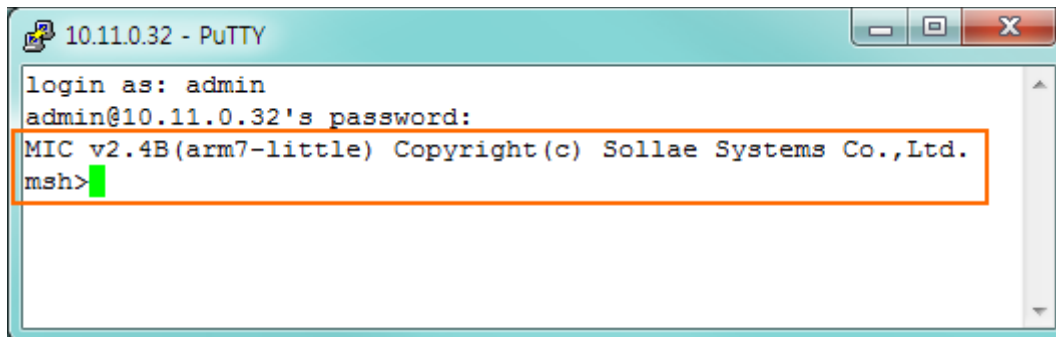

Figure 5-11 Completed SSH connection
③ Run the client program [PuTTY] that supports SSH and connect to port 22 (SSH default number). Try access and enter the ID and password. You will be able to connect as shown in the Figure 5-11 below.